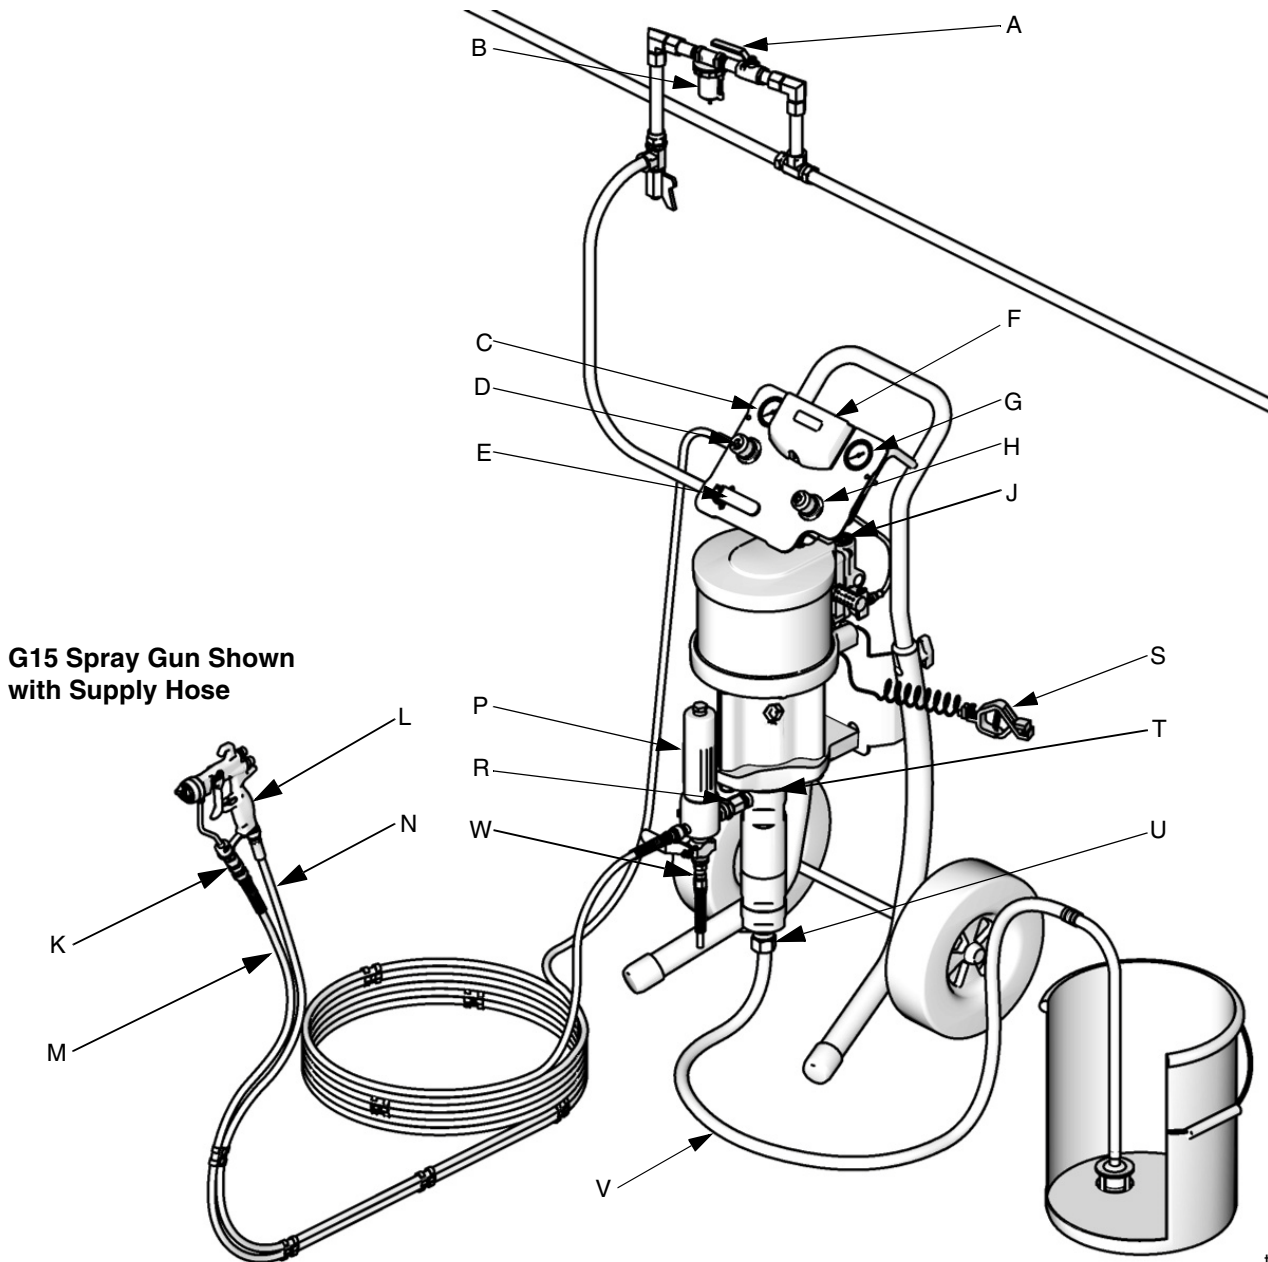

FIG. 3. Typical Installation. (Graco Cart-Mounted Package Shown.)
Be sure all air hoses (N) and fluid hoses (M) are properly sized and pressure rated for your system. See FIG. 3. Use only electrically conductive fluid hoses.
Install the following accessories in the order shown in FIG. 3, using adapters as necessary.
- **Fluid filter (P):** with a 60 mesh (250 micron) stainless steel element to filter particles from the fluid as it leaves the pump.
- **Fluid drain valve (W):** required in your system, to relieve fluid pressure in the hose and gun.
- **Gun or valve (L):** dispenses the fluid. The gun shown in FIG. 3 is an air-assisted spray gun for light to medium viscosity fluids.
- **Fluid line swivel (K):** for easier gun movement.
- **Suction kit (V):** enables the pump to draw fluid from a container.